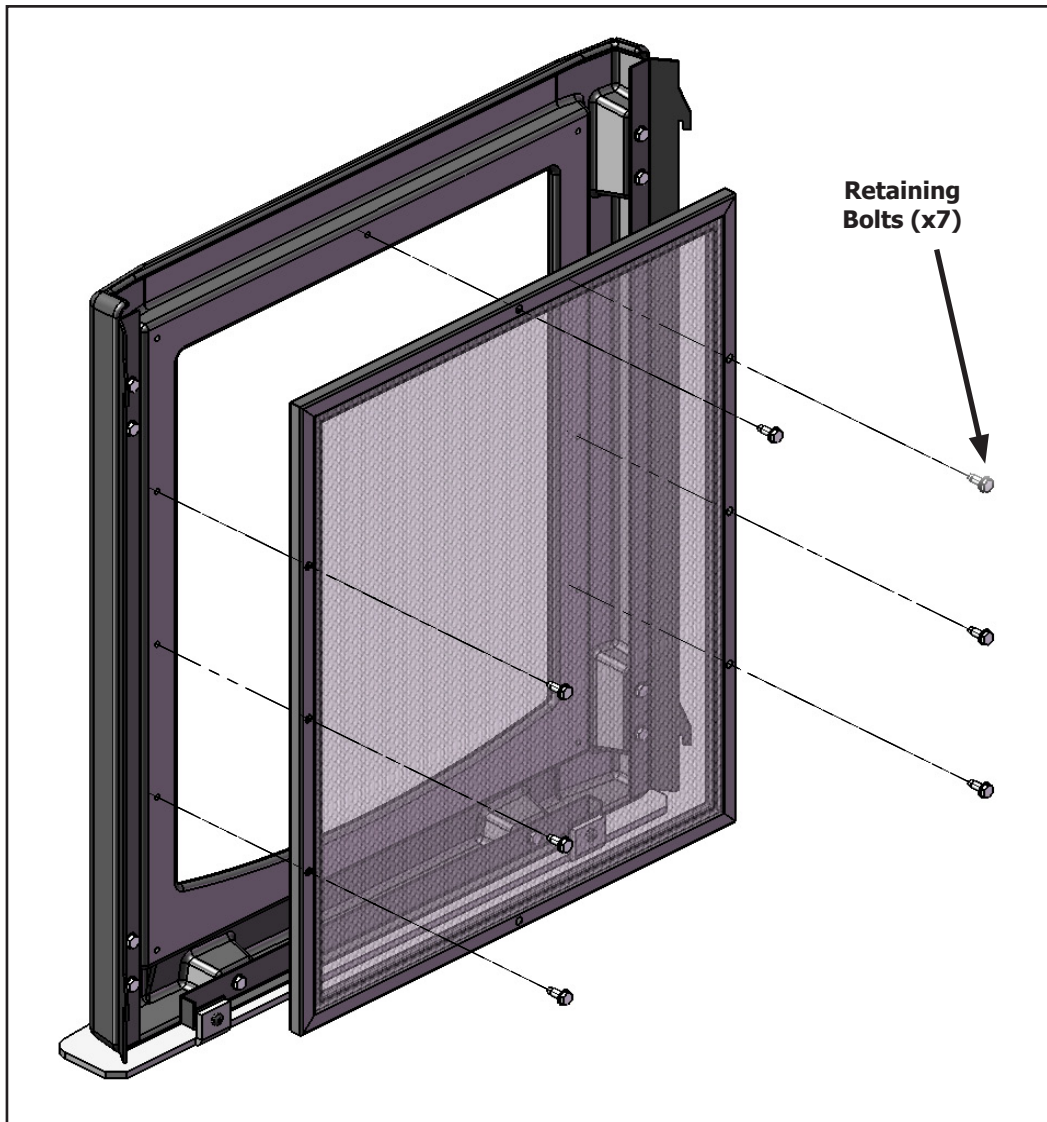

Figure 46. Safety Screen Removal
Step 3: Remove the seven retaining bolts from the back of the cast door (Figure 46) using a 5/16" socket or wrench.